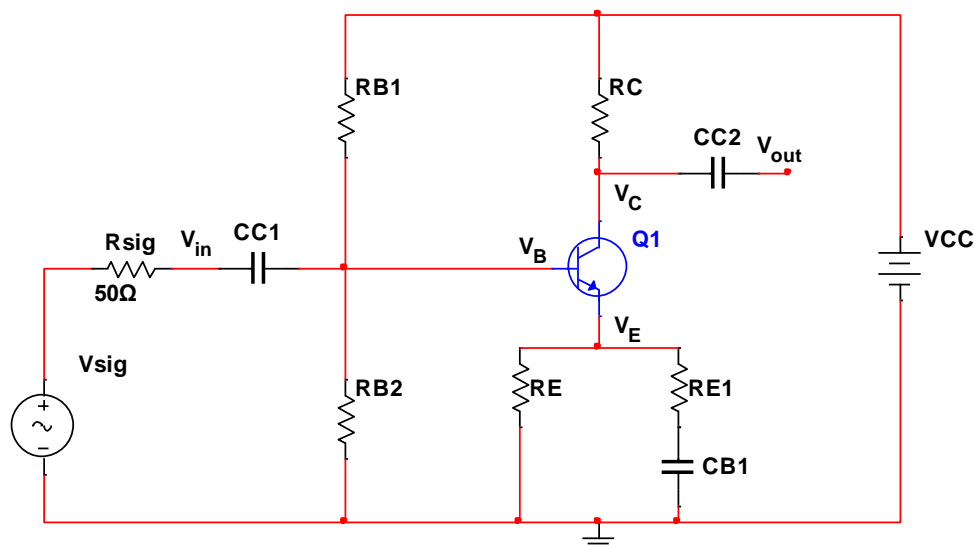

Figure 1.1 – Common-Emitter Amplifier with Emitter Degeneration Parallel Resistor
1. **Before building** the circuit in **Figure 1.1**, **measure** the exact resistances of **all** resistors using the DMM. **Record** these values.
2. **Build** the circuit in **Figure 1.1** using transistor 2N3904 and the resistor values found in the prelab.